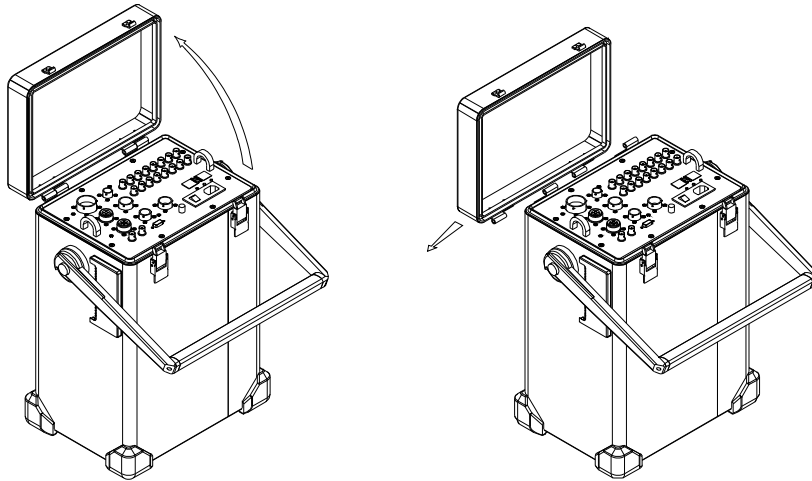

Figure 3-1 Opening the MS5800 case
- b) When required, remove case lid by sliding it to the right (see Figure 3-1).